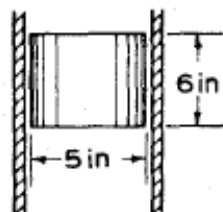

Fig. 1-7
- 1.72 A piston of weight 21 lb slides in a lubricated pipe, as shown in Fig. 1-7. The clearance between piston and pipe is 0.001 in. If the piston decelerates at 2.1 ft/s^2 when the speed is 21 ft/s , what is the viscosity of the oil?